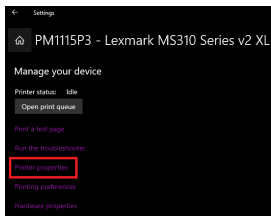

Figure 31
17. On the next screen, click on **Printer Properties**. (Figure 31)